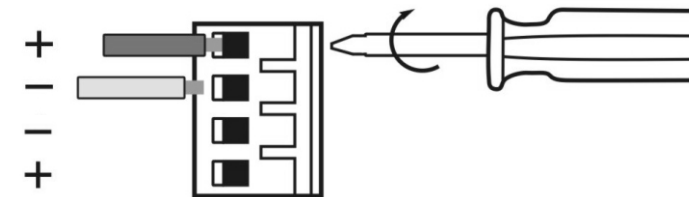

Figure 3: Zone Expansion (Connecting Two AVD-800P Controller)
3. **Inter Data Loop:** This RS-485 data controller can loop control up to 16 AVD-800P units or expand to 128 places (see Figure 3)